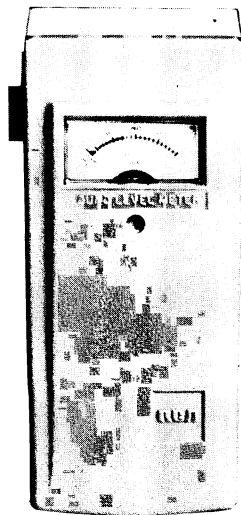

Fig. 3-39 Decibel meter becomes vital test instrument as noise level becomes a more important environmental concern.
**Decibel Meters.** (Fig. 3-39) The measurement of sound or noise levels will become necessary as states pass laws governing maximum al-